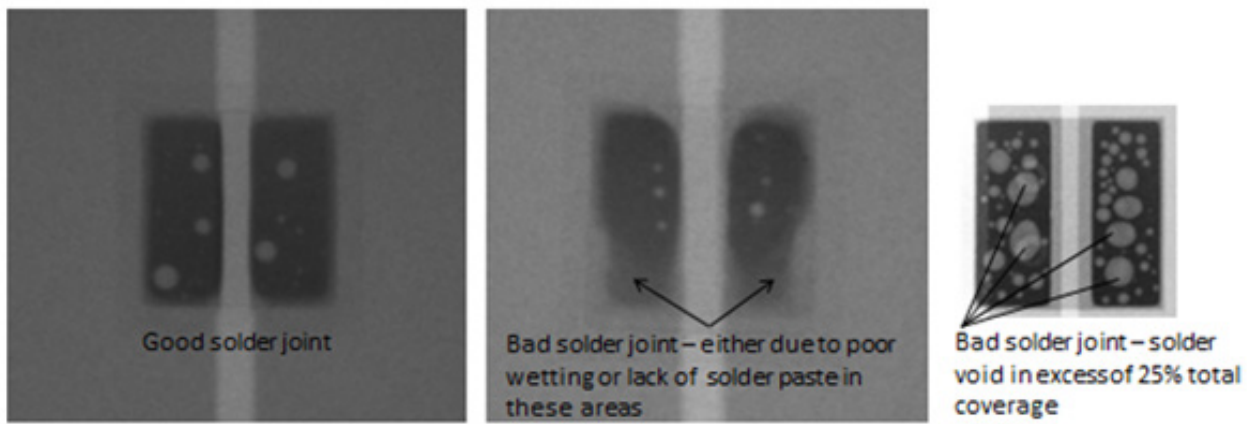

Figure 23. Example of good and bad x-ray result on a two pad LED emitter.
1. Solder voids (see Figure 23) – perform x-ray inspection. As a general guideline, it is best to keep the solder void to less than 25% coverage of the pad area as recommended by the IPC-A-610 *“Acceptability of Electronic Assemblies”* document.